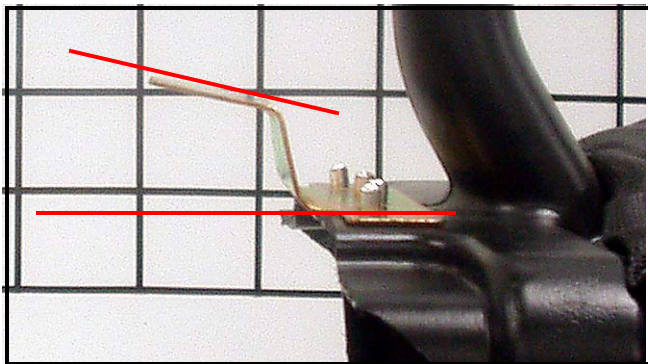

FIGURE 2A
2. If the safety switch bracket is bent as shown in Figure 2A, the safety switch may not be sufficiently depressed (activated) resulting in the engine not starting (i.e. ignition grounded).